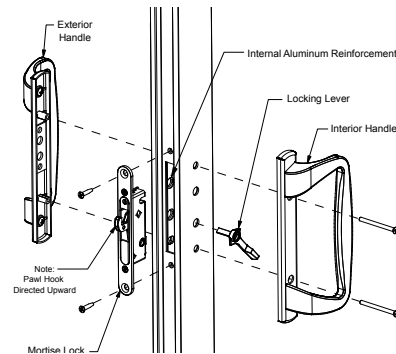

Figure 12 — Handle & Lock Components
- E. From the interior side of the door panel, remove the two long Phillips head screws from the door handle and remove both the interior and exterior handle assemblies (**Figure 12**).